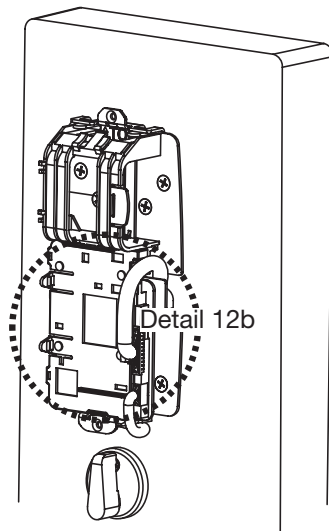

Fig. 13a
Secure the following connectors to the circuit board as shown (Fig. 13a and 13b Detail).
- Place (6) “AA” batteries into the compartment being careful to align polarity (- & +) according to case markings (Fig. 13a).